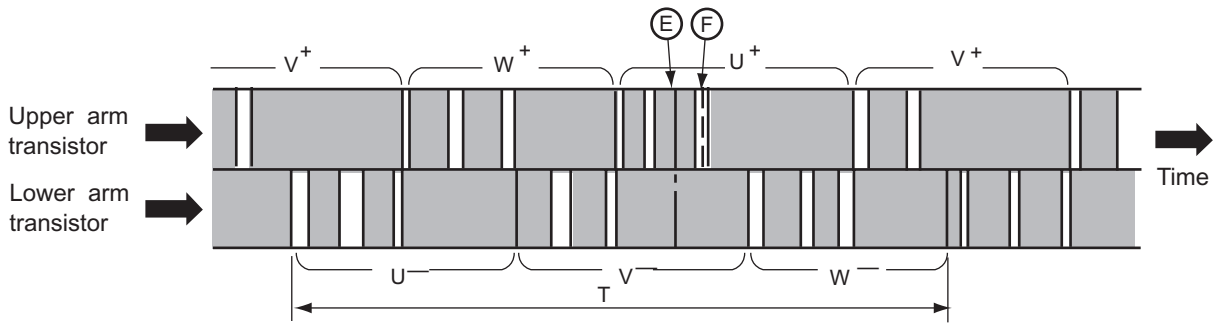

Fig. 3-2 Switching order of power module
- DC 320-360V is input to power module and power module switches power supply current according to rotation position of magnet rotor. The switching order is as shown in Fig. 3-2.
- Time T in Fig. 3-2 shows the switching period, and relation with rotation speed (N) of the compressor is shown by formula below;